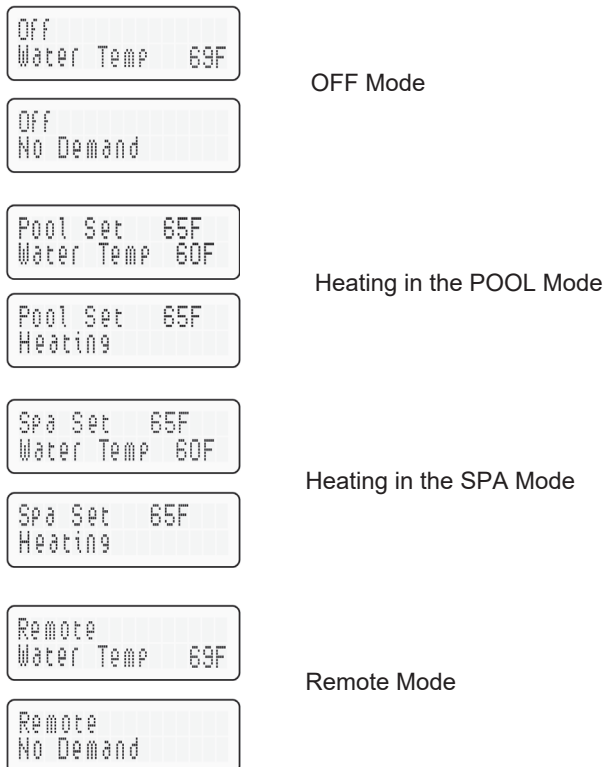

Figure 29. Remote Control Menu - Remote Operation
**CAUTION:** Before installing remote controls to the P-156 heaters, read the following: The digital thermostat model is remote-ready in most cases. The digital liquid crystal display (LCD) shows the actual pool temperature, operating status, and service codes. See Figure 29. The touch pad on the control panel allows you to select the desired pool or spa temperature. It also indicates when a remote system is controlling the heater by displaying Remote in the display. When connecting the heater to a remote system, identify whether it is a two- or three-wire remote system. Select the appropriate instruction listed below to properly install the remote to the heater.